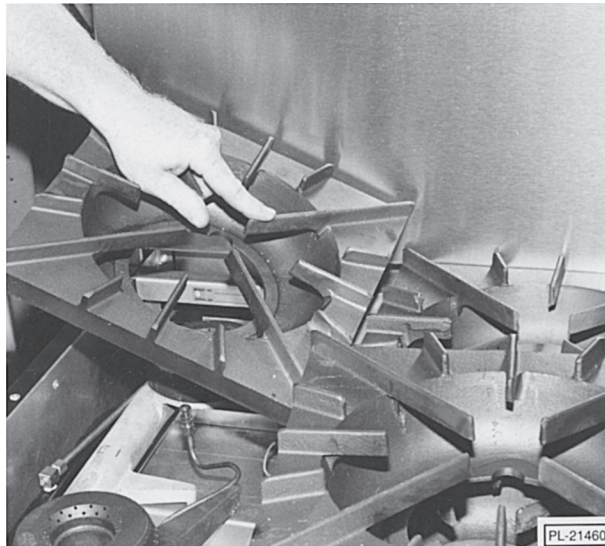

Fig. 30
4. From inside the oven, straighten the capillary lead. From the opening in the oven top section, pull the capillary out of the oven cavity (Fig. 30).